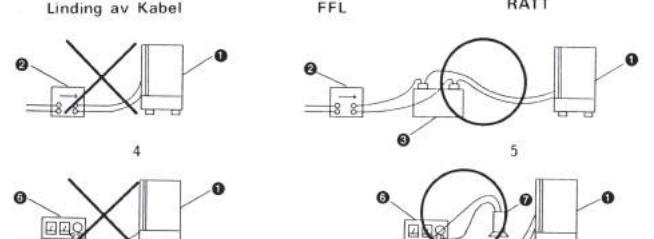

Fig. 2
7.7 Never use a battery charger, transformer/rectifier, battery eliminator or AC/DC converter to supply your Engel refrigerator. Such equipment can, under certain circumstances, deliver current at a voltage which may damage the inverter. It is in order to use these items always provided that the battery is connected in parallel between the charging equipment and the refrigerator. (See Fig 2)
7.1. Direct connection between battery and refrigerator. Avoid the use of unnecessary plugs, switches, distribution sockets etc. between the battery and the refrigerator, as these will contribute to voltage drop at the input terminals and momentary peak voltages caused by other electrical equipment in the same circuit can damage the refrigerator inverter. Always connect the refrigerator directly to the battery. (See Fig 2)